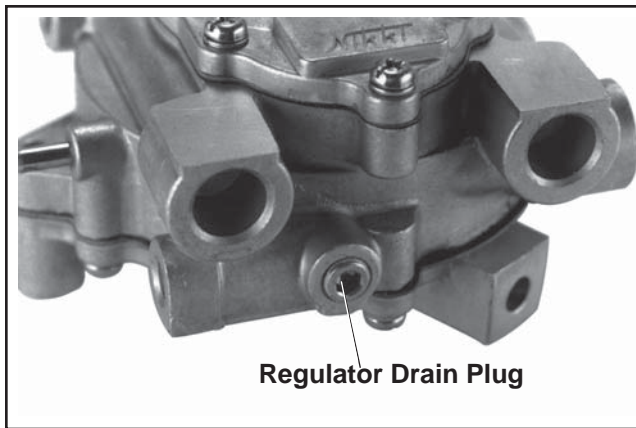

Figure 12. Nikki Regulator Drain Plug.
3. Remove the 1/8" pipe plug from the bottom of regulator. Remove any accumulated deposits. See Figure 12.